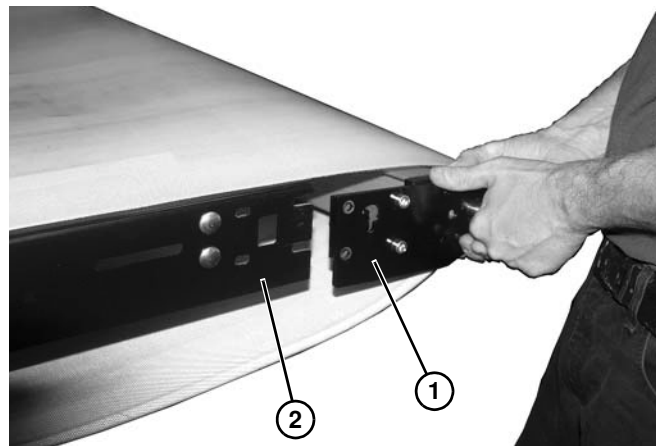

Figure 118
6. Remove drive tail end cover plate (**Figure 118, item 1**) from conveyor frame (**Figure 118, item 2**) on both sides of conveyor.